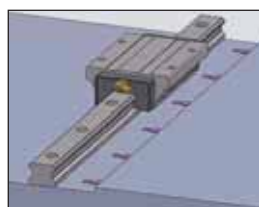

Fig 1.11.7 Holding an Linear Guide rail against the Reference Surface
(B) Gently place an Linear Guide rail on the base, and temporarily tighten the bolts so that the rail lightly contacts the mounting surface. Hold the line marked side of the Linear Guide rail against matching the base-side reference surface (Fig 1.11.7)